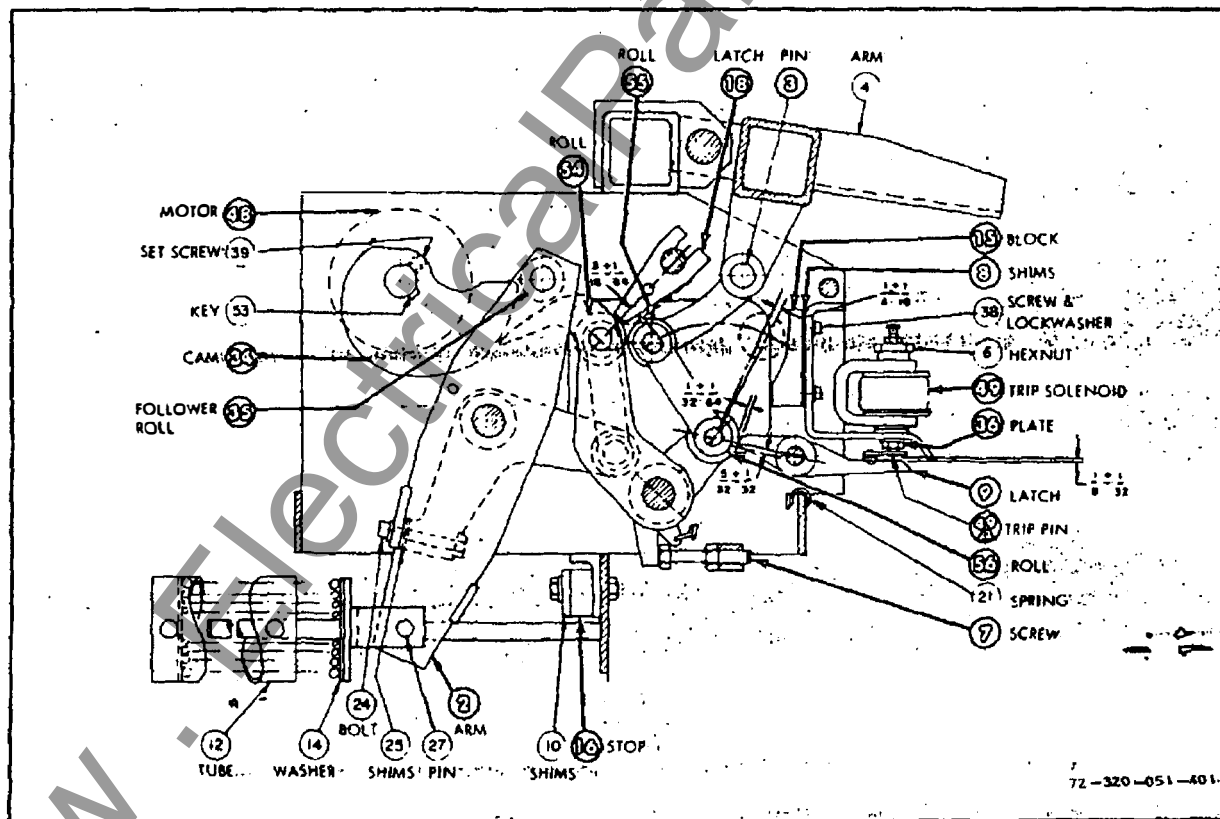

Figure 19.— Type SE-3 Stored Energy Operator Assembly Adjustments
lock angle, it rises and pushes up on the spring assembly (3). This causes link (1) to rotate pin (8) which raises lever (D) and link (X) (Fig. 19), releasing the closing springs.